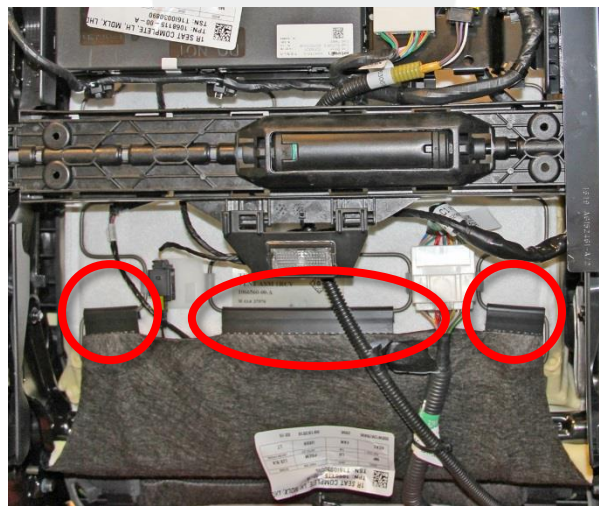

Figure 6
9. Release the J-clips that secure the seat upholstery to the cross wires on the flex mat (Figure 6).